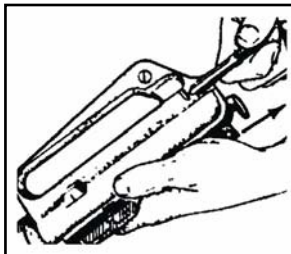

Figure 071-311-2025-9. Pulling the charging handle
- h.** Remove the bolt carrier and bolt (figure 071-311-2025-10).